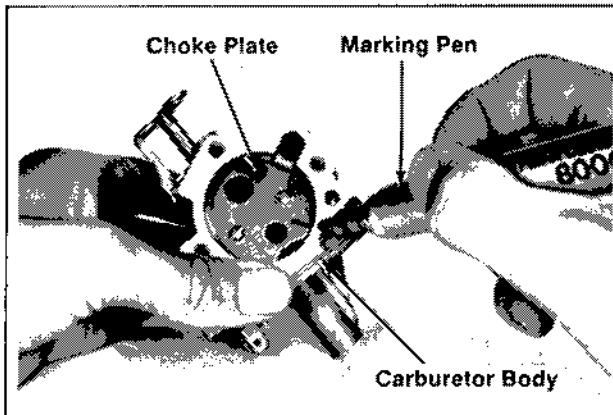

Figure 6B-8. Marking Choke Plate and Carburetor Body.
1. Because the edges of choke plate are beveled, mark the choke plate and carburetor body with a marking pen to ensure correct reassembly (refer to Figure 6B-8). Also take note of the choke plate position in bore, and the position of the choke lever.